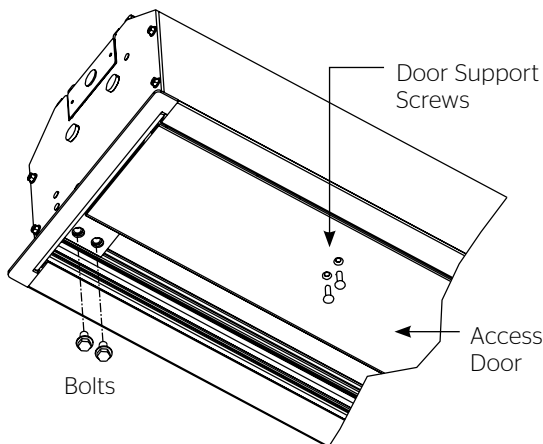

Figure 1
- Remove the access door. First, remove the 2 bolts from each end with a 9/16" open wrench or socket driver. Next, use a 5/32" hex key to remove the two screws in the center of the access door. This will allow the door to drop open on the hinges (Figure 1).